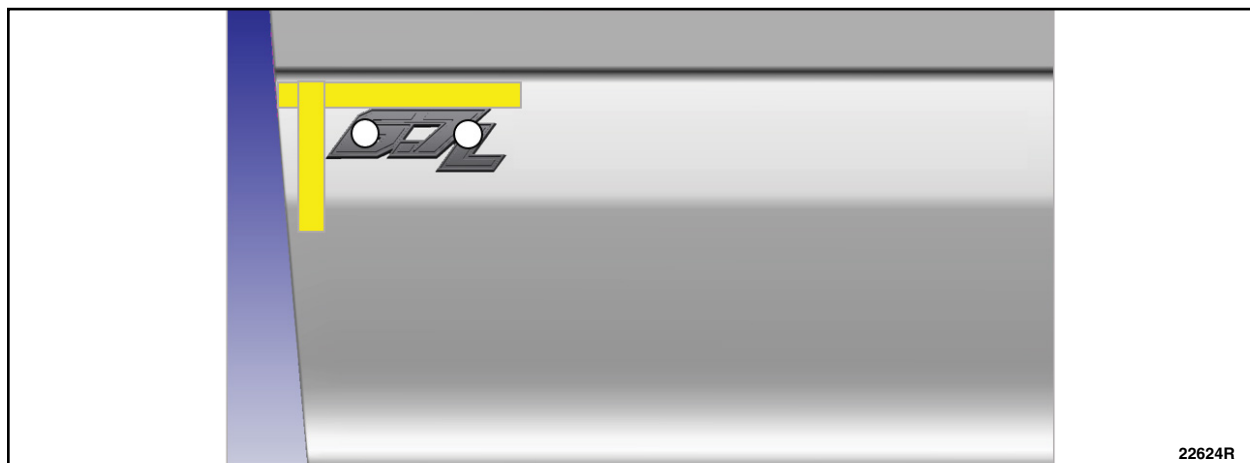

FIGURE 5
19. Remove the tape liner from the back of the badge and install to the door using the locating tape to properly align the badge. See Figure 5.
20. Using medium hand pressure, press for 3 seconds at a minimum of 2 separate locations along the length of the badge until the tape is fully adhered. See Figure 5.